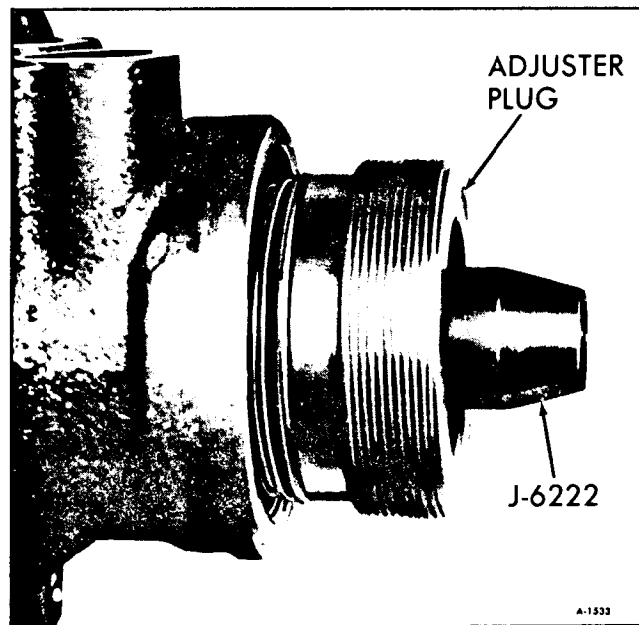

Figure 51-Installing Adjuster Plug
3. Lubricate a new adjuster plug "O" ring with Power Steering Fluid and install in groove on adjuster plug. Place Seal Protector J-6222 over stub shaft, then install the adjuster plug assembly in the housing until it seats against the valve body (figure 51). Remove Seal Protector.